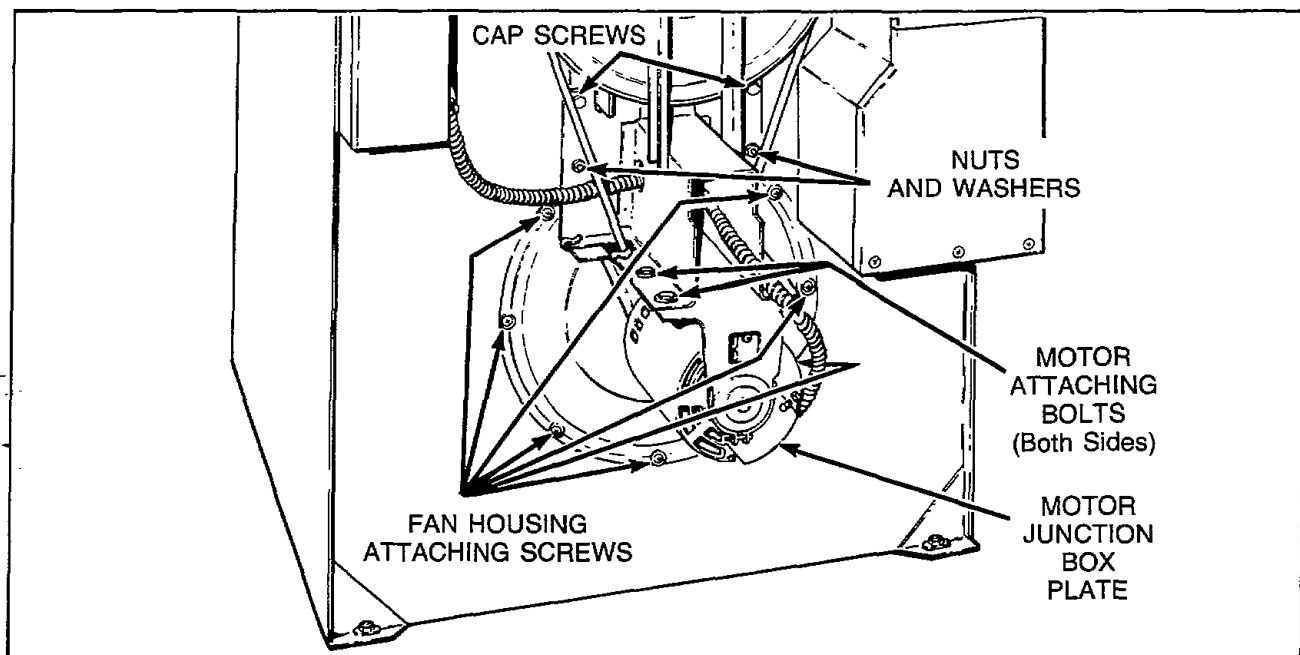

Figure 26
- f. Remove the seven fan housing attaching screws, *Figure 26*.
- g. Remove the two cap screws, nuts and washers, holding motor bracket to rear of tumbler cabinet, *Figure 26*.
- h. Remove plate from motor junction box and disconnect wires from motor, *Figure 26*.
- k. Remove four nuts, washers and bolts holding mounting bracket to motor, *Figure 26*.